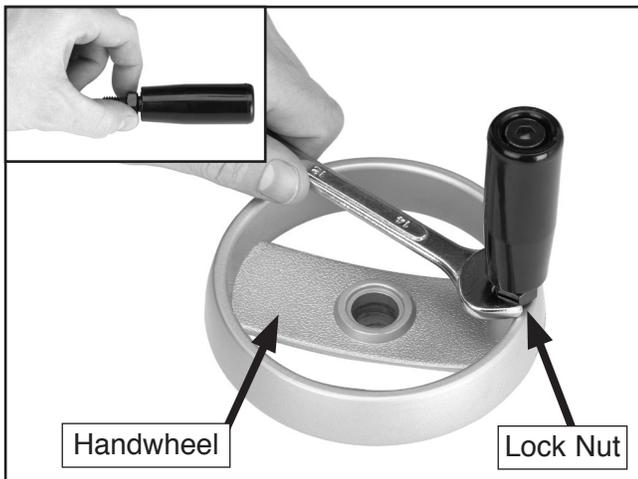

Figure 16. Handwheel assembly.
2. Screw the handle into the handwheel and tighten the lock nut against the wheel. This nut acts as a locknut and a spacer (**Figure 16**).